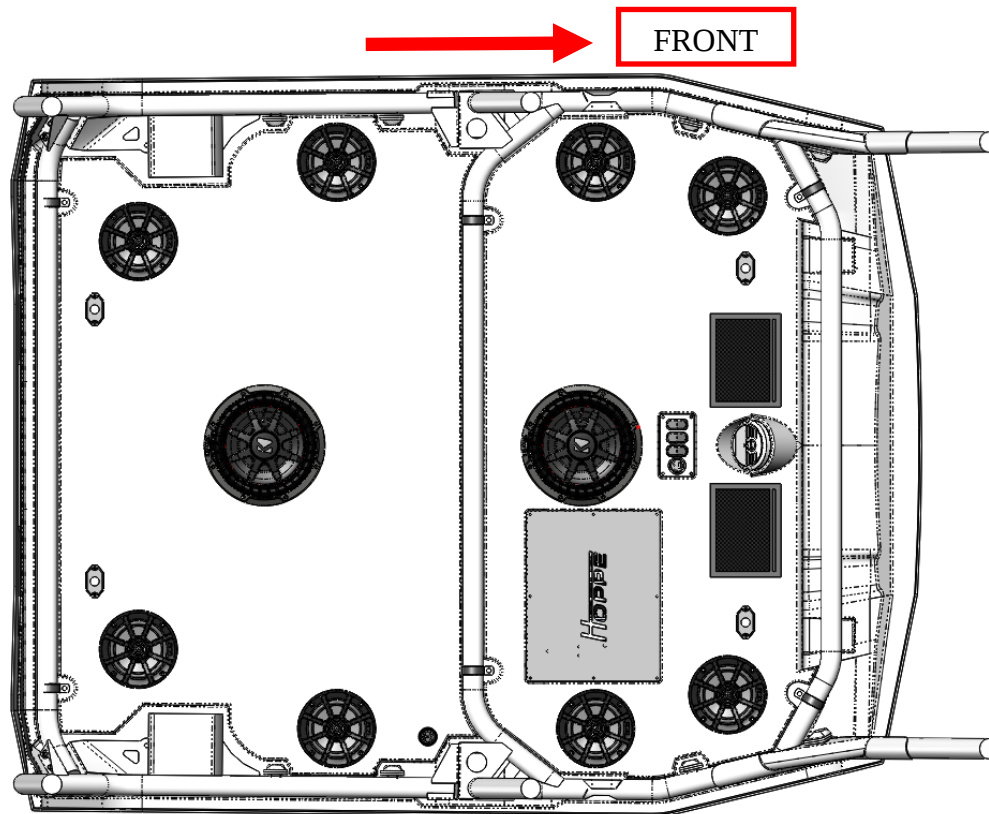

Figure 6: Install the top on the cage.
3. Using a few assistants, set the *Audio Shade* off-road top on the cage. The top is contoured such that the cage fits inside the grooves on the top. **Note: The top weighs up to 150 lbs. depending on your configuration. Since you will have to lift and reach, it is helpful to have 4 people for this step. See Figure 6.**